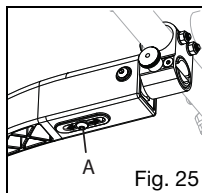

Fig. 25
2. Loosen the 6mm screw located on the underside of the assembly (Fig. 25:A).
4. Retighten the 6mm screw (Fig. 25:A). Take care to not overtighten.